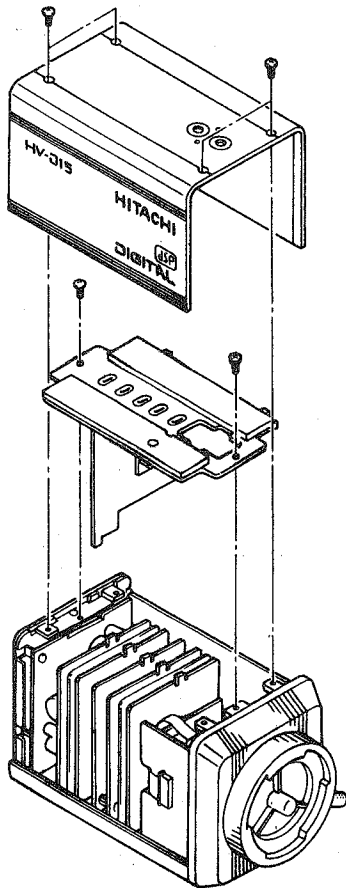

Fig. 3 HV-D15
- 2) Remove two screws, and remove the top chassis fixing the boards as shown in Fig. 3.